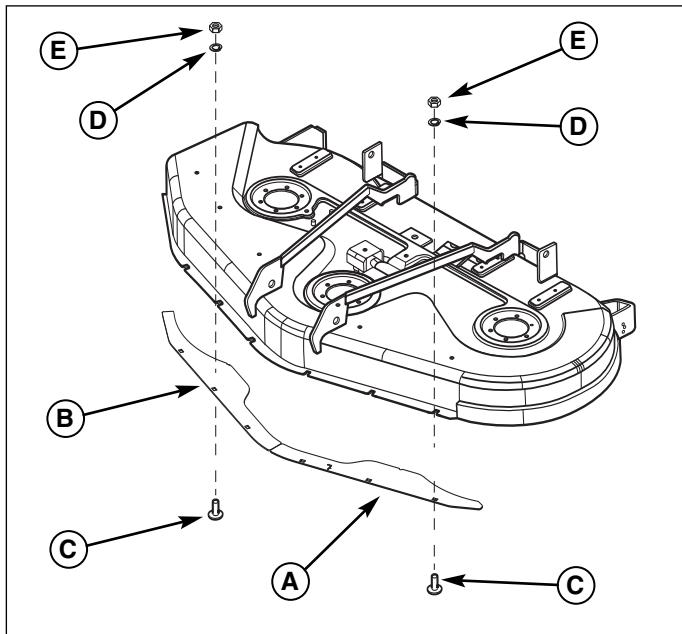

Figure 1. Install Front Baffles
2. Install the left (23-1/2" long) baffle and right (26-1/2" front baffle (A and B, Figure 1) using six carriage bolts (C), lockwashers (D), and nuts (E). Be sure the bolts are inserted fully into the slots in the mower deck.